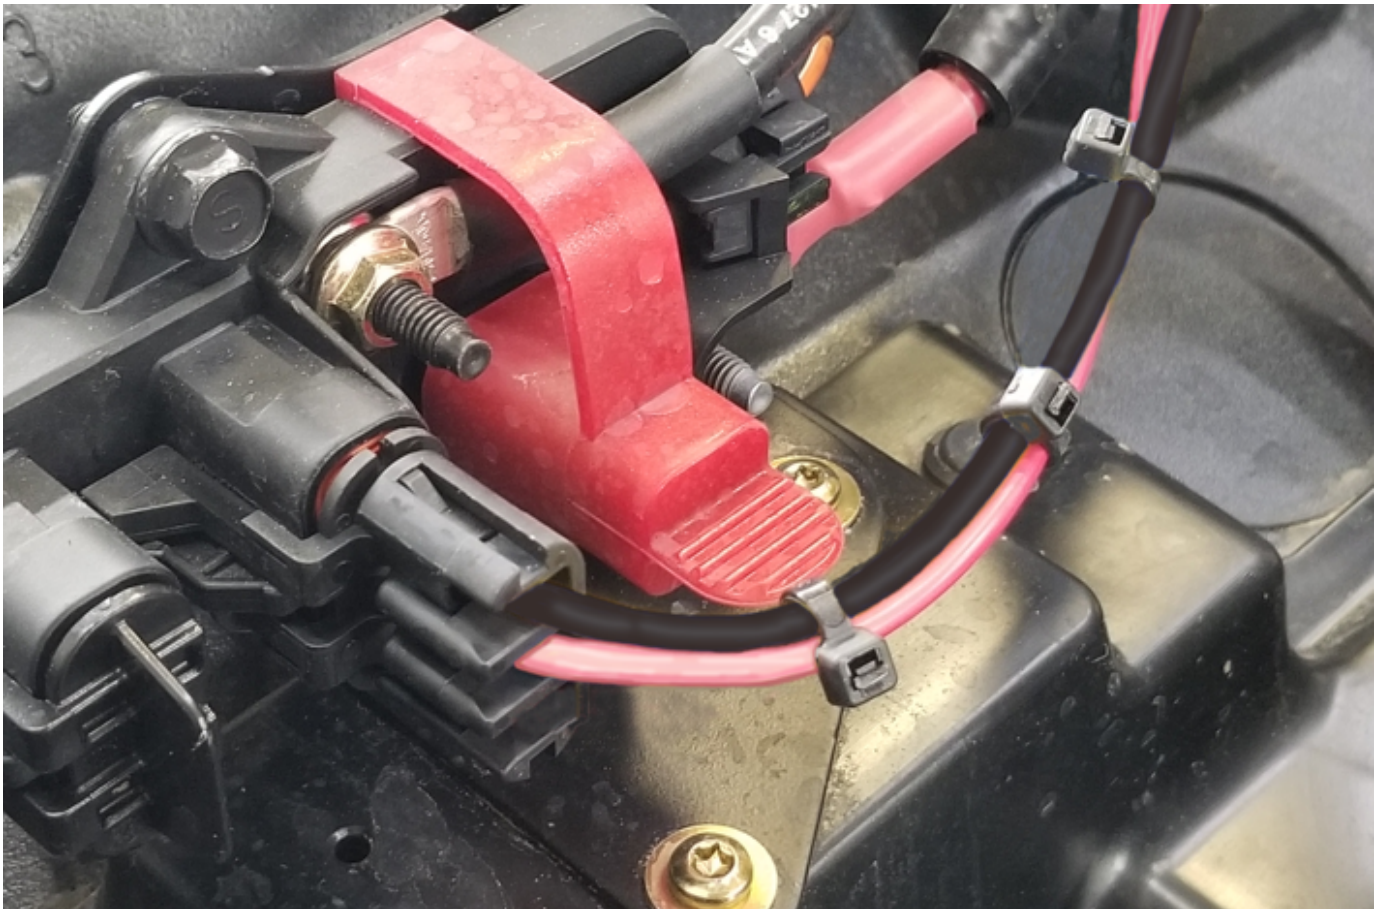

Figure 14
- d. Using the included Polaris Pulse Connector harness and Insulated Butt Splice Connectors, connect the Blue Wire to the Yellow wire on the Polaris Pulse Connector. Connect the Black wire from the harness to the Black with on the Polaris Pulse Connector. Use the remaining Butt Splice Connector to close off the end of the Red wire on the Polaris Pulse Connector. This wire is constant 12V power and is not used. Refer to Figure 14.